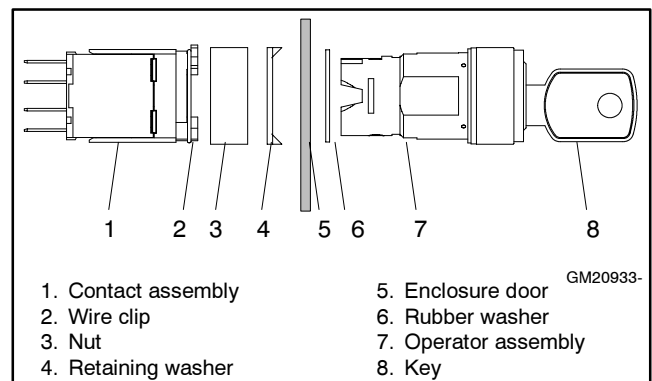

Figure 5 Selector Switch Components
- 2.4 Place a small slotted screwdriver at either corner of the wire clip and pry up slightly to separate the contact assembly (GM20928) from the operator assembly (GM20927) part of the switch assembly, if connected. See Figure 5.